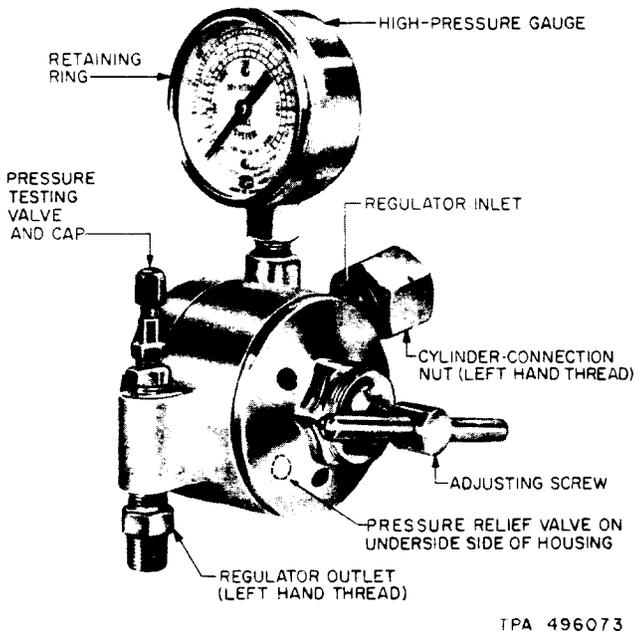

Fig. 1—B Pressure Testing Regulator
3.03 The B Pressure-Testing Regulator is equipped with a single high-pressure gauge for determining pressure and volume of gas in the cylinder, and a pressure-testing valve for measuring the outlet pressure with a B or C Pressure Gauge. The regulator weighs approximately 6 pounds and has maximum over-all dimensions of 7 by 6-1/2 by 6-1/2 inches. It may be supplied in either of the two designs illustrated in Fig. 1 and 2.